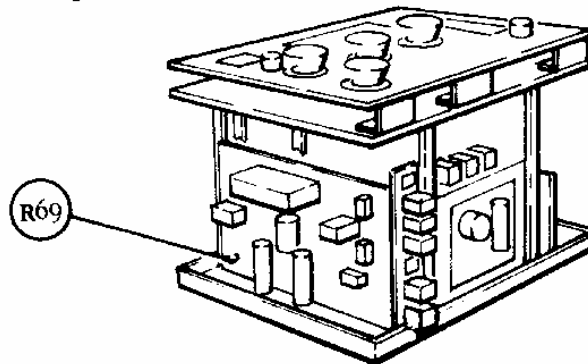

Fig 39 Overload Adjustment
- 6 If the overload circuit is not correctly set, adjust  by a small amount (See Fig 39 below) and recheck ALL functions of the overload circuit by reference to 2 on page 50, and 3, 4, and 5 above.